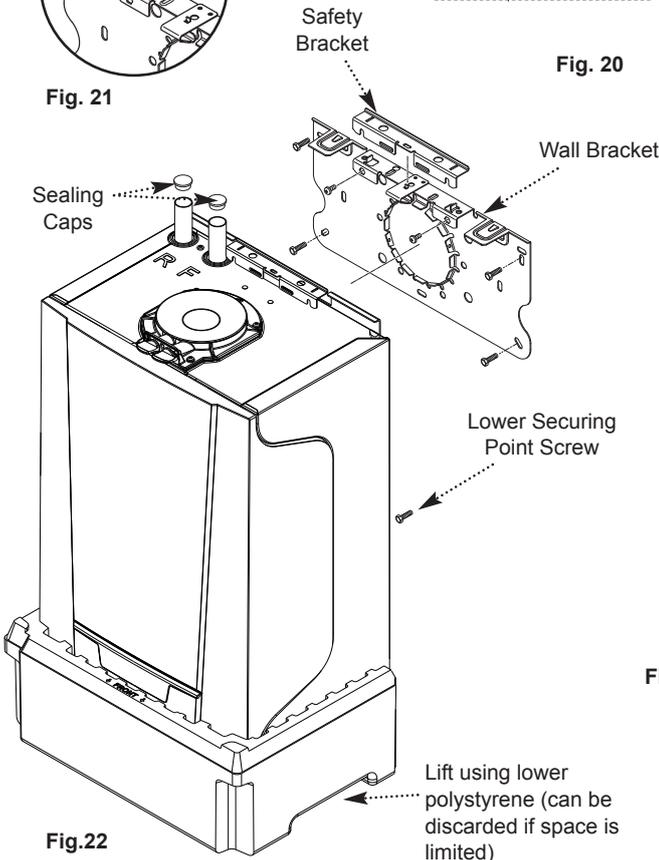

Fig.22
5.4.3 Making the Water Connections (Fig. 22)